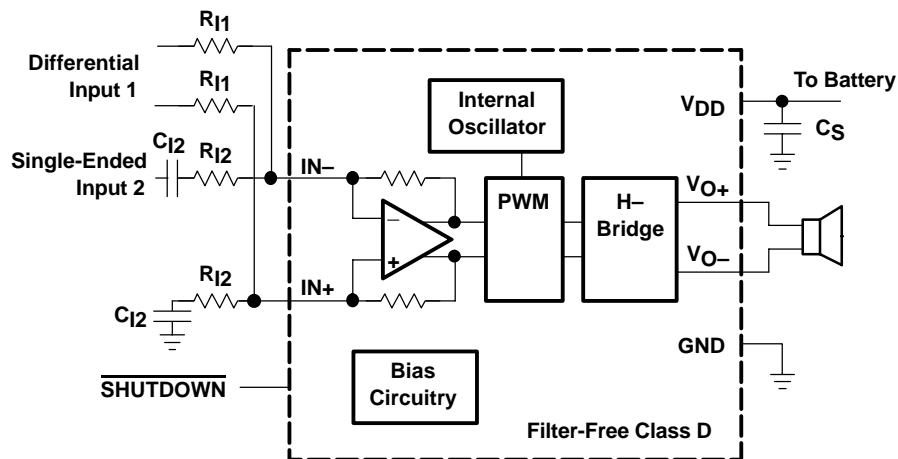

Figure 30. Application Schematic With TPA2005D1 Summing Differential Input and Single-Ended Input Signals
Figure 30 shows how to sum a differential input signal and a single-ended input signal. Ground noise can couple in through IN+ with this method. It is better to use differential inputs. The corner frequency of the single-ended input is set by C_{I2}, shown in equation (8). To assure that each input is balanced, the single-ended input must be driven by a low-impedance source even if the input is not in use